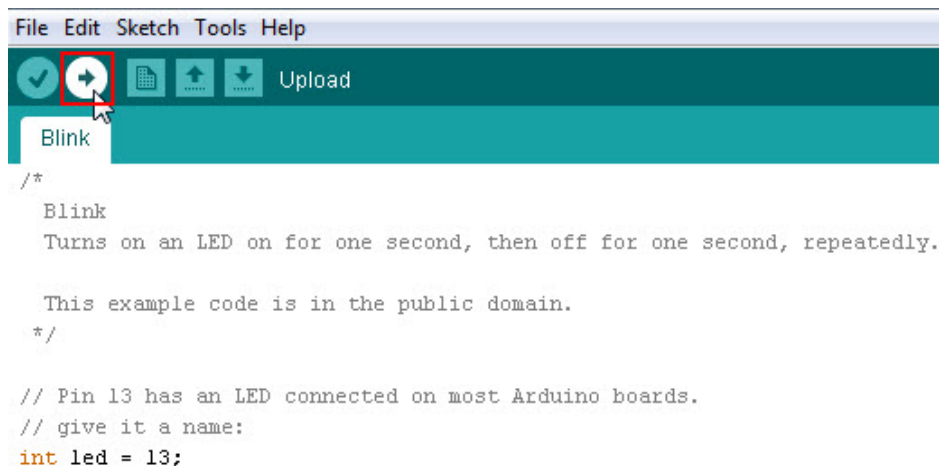

Figure2.3.10
2.3.9. Choose “File > Upload to I/O Board” or click icon as figure2.3.10 to upload program into the Dino (Arduino Compatible) Board.